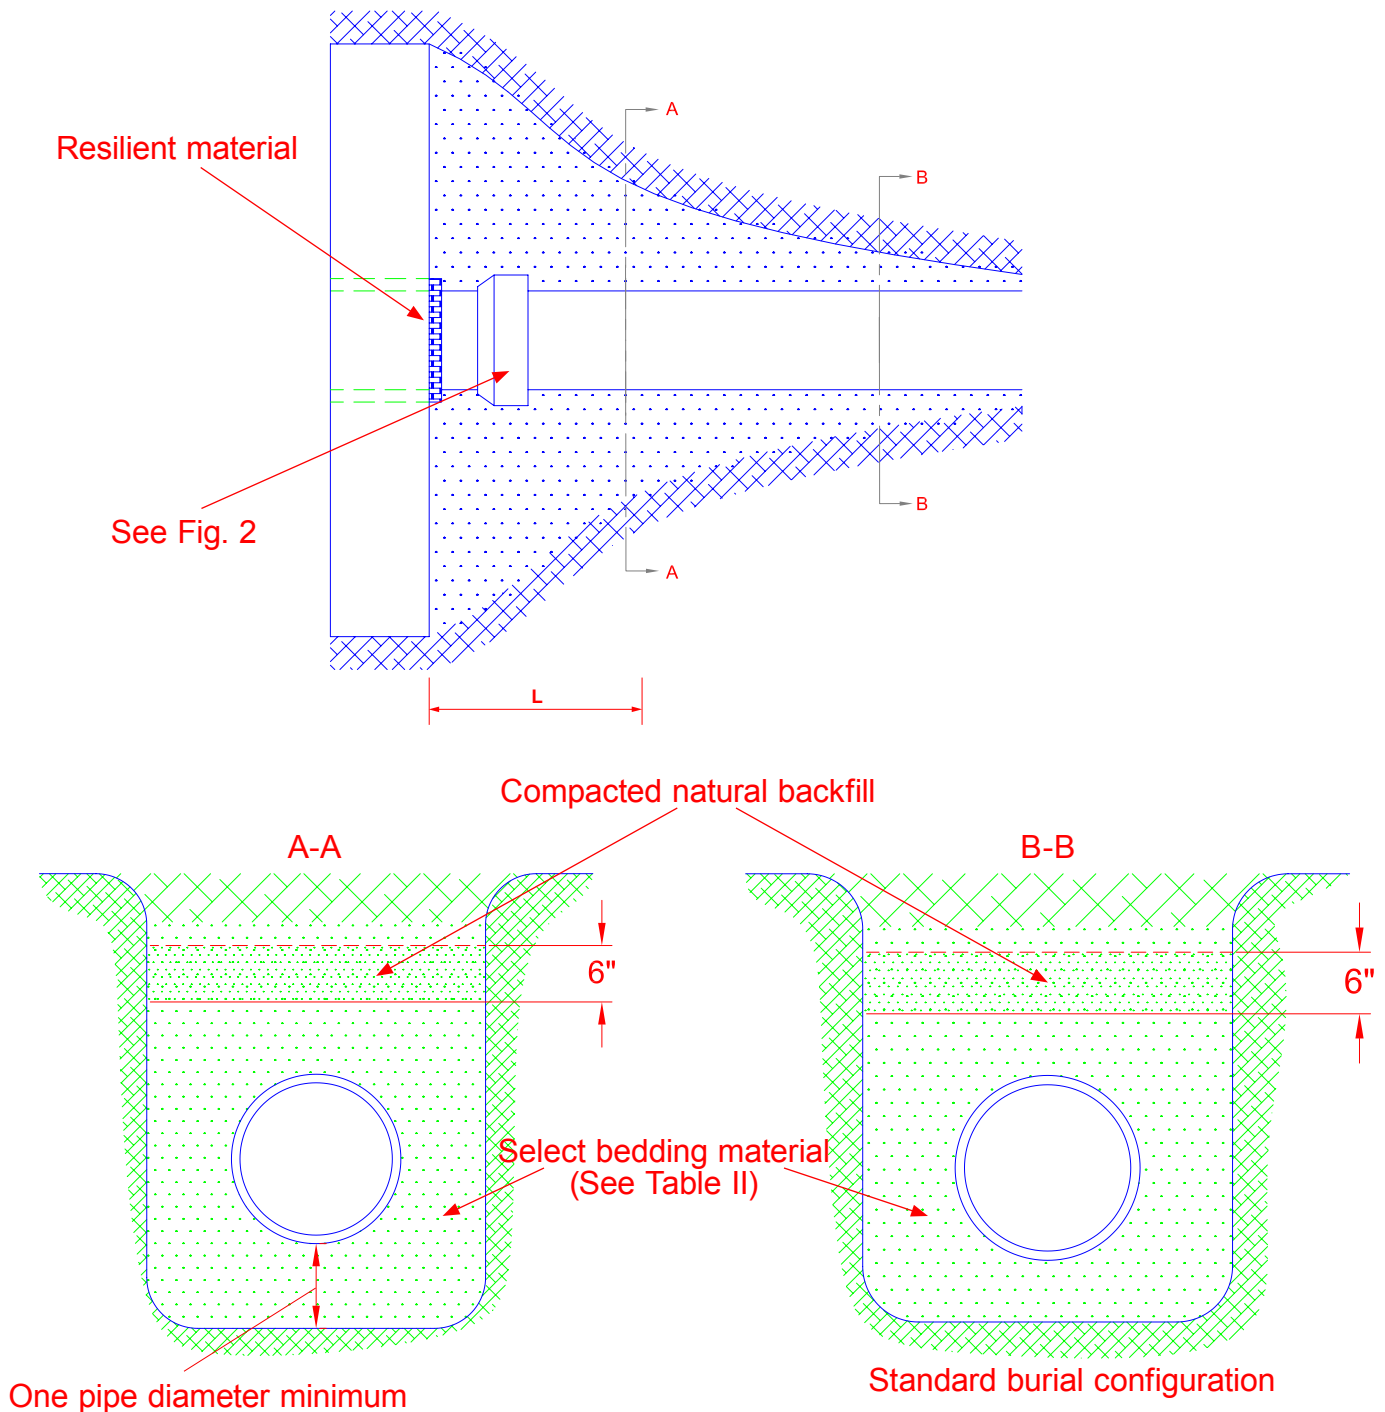

Fig. 9 – Pipe Going Through (or Under) Concrete Structure
- B. The correct trench configuration adjacent to the structure is shown in Fig. 9. To allow for the possibility of unequal settling of the concrete and pipe, it is necessary to have extra bedding to prevent overstressing the pipe.